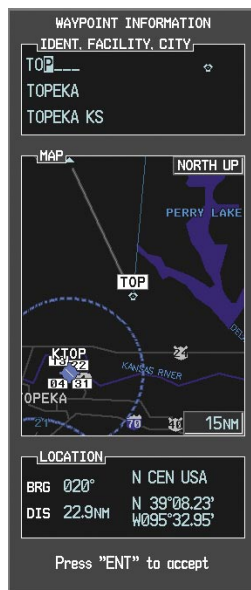

Figure 5-93 Entering V4 Entry Point
- c) Turn the small **FMS** Knob to display the Waypoint Information Window. Enter the desired entry point for V4, in this case Topeka VOR (TOP) is used as shown in Figure 5-93.